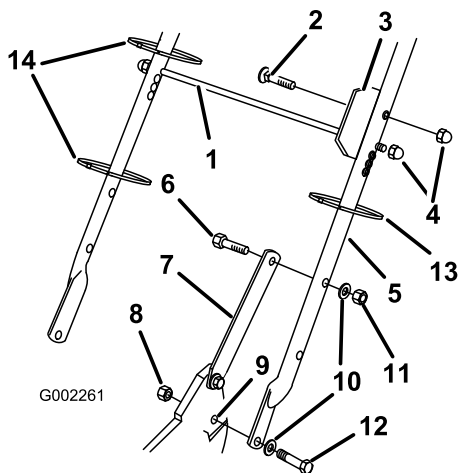

Figure 3
1. Mount the handle to the outside of the mower housing (using the bottom hole) with two bolts (5/16 x 1-1/4 inches), washers, and thin locknuts (5/16 inch) (Figure 3).
2. Secure the handle latches to the handle with 2 bolts (5/16 x 1-1/2 inches), washers, and locknuts (5/16 inch) (Figure 3).
3. Insert the carriage bolt through the bag aligning plate and the second from the top hole on the left side of the handle, and secure it with a cap locknut (Figure 3).
4. Slide the bag support rod through the third from the top mounting holes in the handle, and secure each end with a cap locknut (Figure 3).
5. Use cable ties to secure the control cables to the handle (Figure 3).